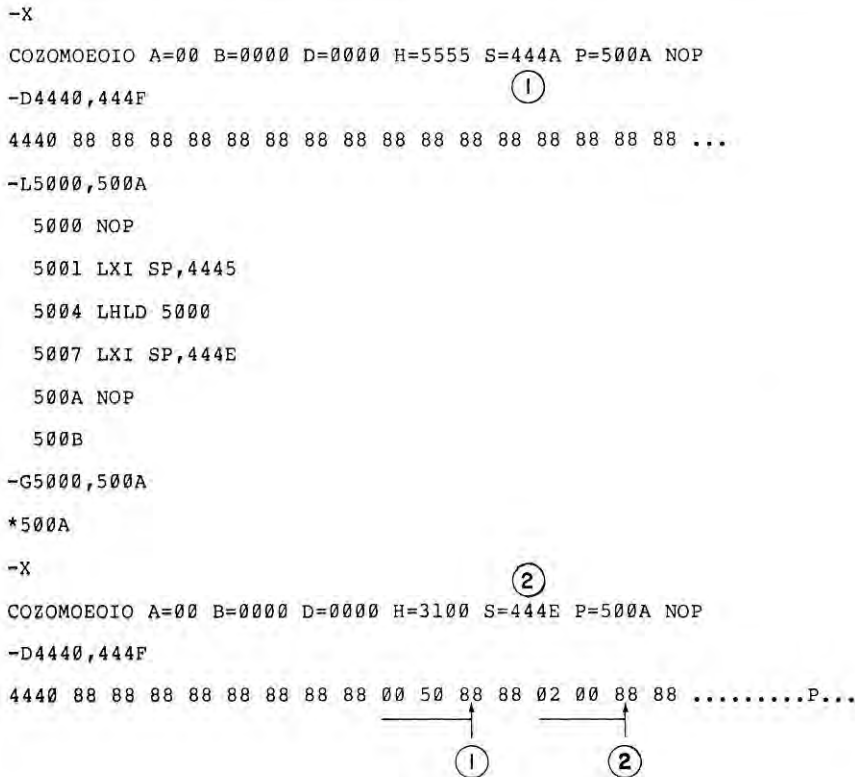

Figure 1
Further research indicates that the problem is caused by DDT using stack at the point specified by the entry and exit values specified by the user (see Fig. 1). I set the stack pointer (SP) to 444AH and then ran the program listed in the figure. The stack area is displayed at the bottom line.